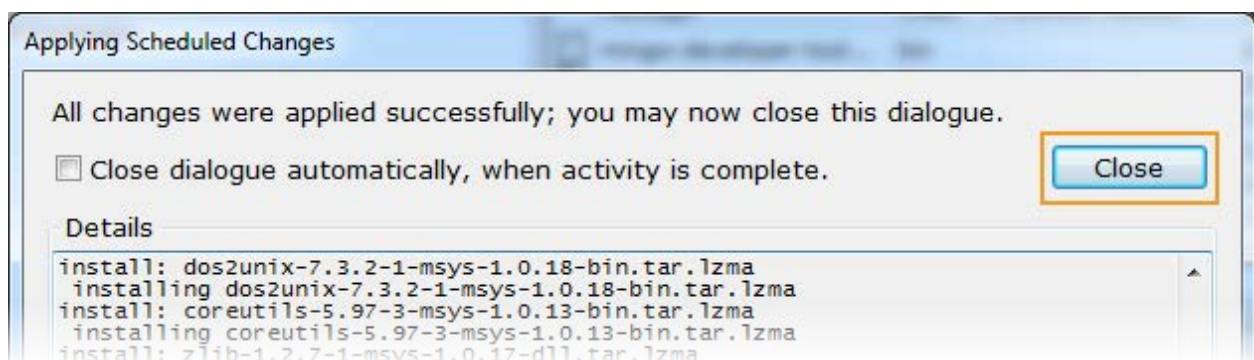

Figure 7. Applying scheduled changes
- Click **Close** to close the dialog window once the operation is complete (see Figure 7).